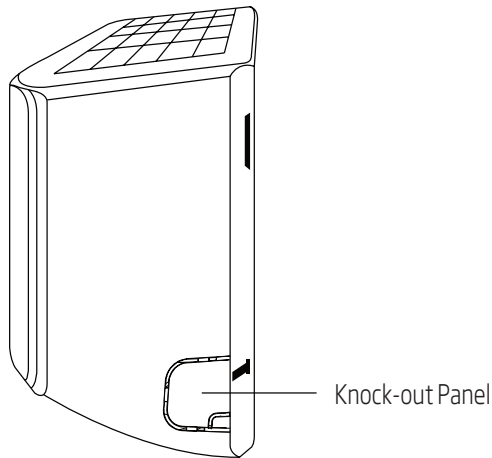

Fig. 5.3
2. If the wall hole is behind the unit, keep the knock-out panel in place. If the wall hole is to the side of the indoor unit, remove the plastic knock-out panel from that side of the unit. (See Fig. 5.3). This will create a slot through which your piping can exit the unit. Use needle nose pliers if the plastic panel is too difficult to remove by hand.